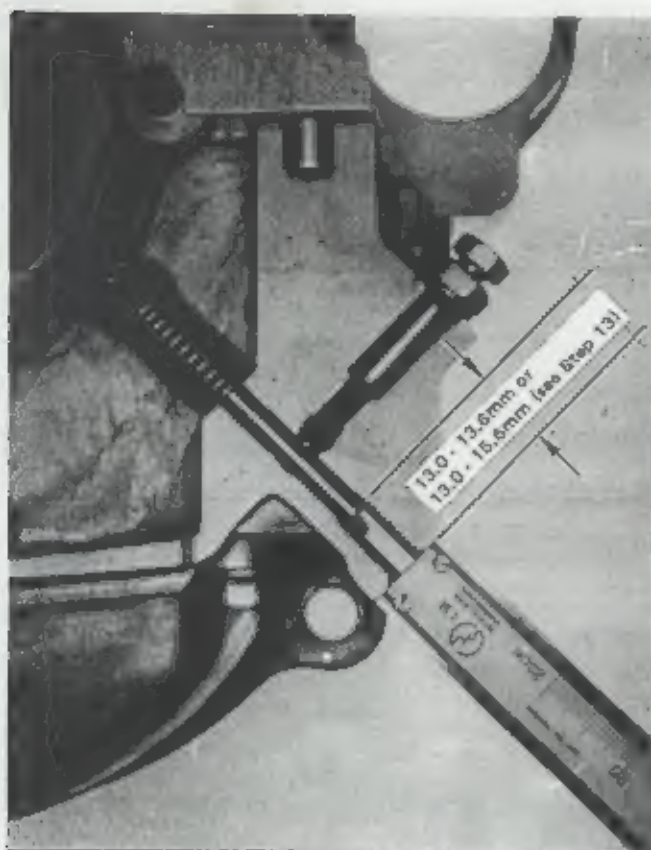

FIG. 19
13. Measure the distance between the bottom of the push bar and the mouth of the access hole (Fig. 19).
Fig. 19 dimension is 13.0 - 15.6mm for engines within the following serial number range:
Fig. 19 dimension is 13.0 - 13.6mm for all engines after the above serial number range.